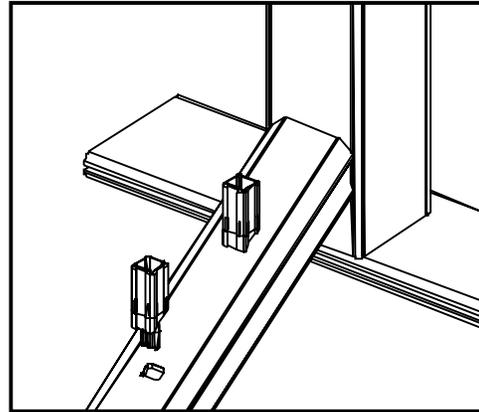

Figure 30
17. Fully engage the baluster inserts into the routed holes of the bottom rail (Figure 30).